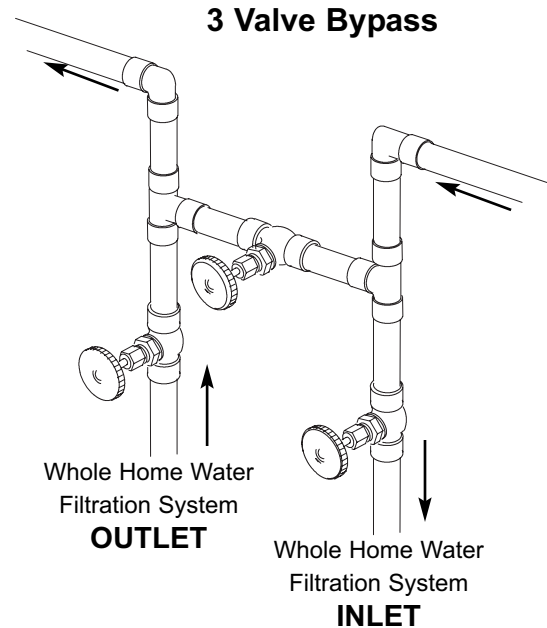

FIG. 6
Always install either a single bypass valve (provided) to the contractor/plumber-supplied plumbing, as shown in Figure 7 OR if desired, a 3 valve bypass system (parts not included) can be installed, as shown in Figure 6. Bypass valves allow you to turn off water to the Whole Home Water Filtration System for maintenance if needed, but still have water in house pipes.
**CAUTION:** The house cold water pipe (metal only) is often used as a ground for the house electrical system. The 3-valve bypass type of installation, shown in Figure 6, will maintain ground continuity. If you use a plastic bypass valve at the unit, continuity is broken. To restore the ground, do the following: